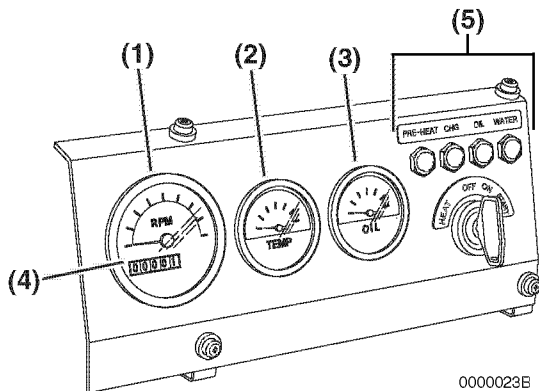
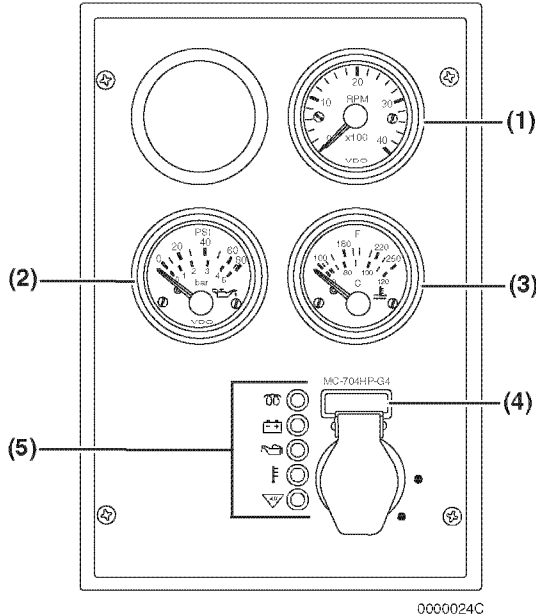

Figure 4
Figure 5
1. While the engine is running, check the gauges for normal indications. The gauges shown in **Figure 5** and **Figure 4** are provided for illustrative purposes only.
- **Tachometer (Figure 5, (1)) or (Figure 4, (1))** - Make sure the engine speed is within normal limits. See *Engine Speed Specifications on page 128*.
- **Engine Oil Pressure (Figure 5, (2)) or (Figure 4, (3))** - Make sure the engine oil pressure is within normal limits. See *Principal Engine Specifications on page 129*.
- **Engine Coolant Temperature (Figure 5, (3)) or (Figure 4, (2))** - Make sure the engine coolant temperature is within normal limits.
- **Hour Meter** - The hour meter display (**Figure 5, (4)**) or (**Figure 4, (4)**) shows the total number of hours the engine has run. This is useful for planning periodic maintenance operations. See *Periodic Maintenance Schedule on page 85*.
2. After the engine has reached operating temperature, all of the indicators (**Figure 5, (5)**) or (**Figure 4, (5)**) should be off. If any of the indicators are on, shut down the engine and have the necessary repairs performed.